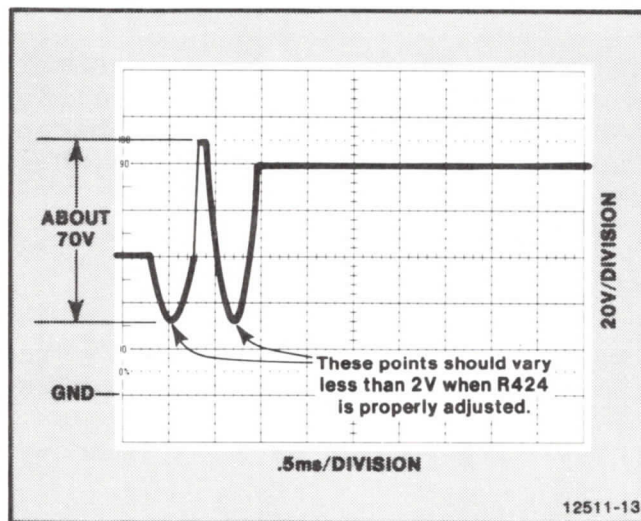

Figure 10-22. Dynamic Focus Waveform.
3. Adjust R424 (the Dynamic Focus control, at the lower center of the Deflection Amplifier board) so that the lowest portion of the waveform changes less than 2 V as R128 (CORNER FOCUS adjustment -- HV & Z Axis board) is adjusted from one extreme to the other. See Figure 10-22.